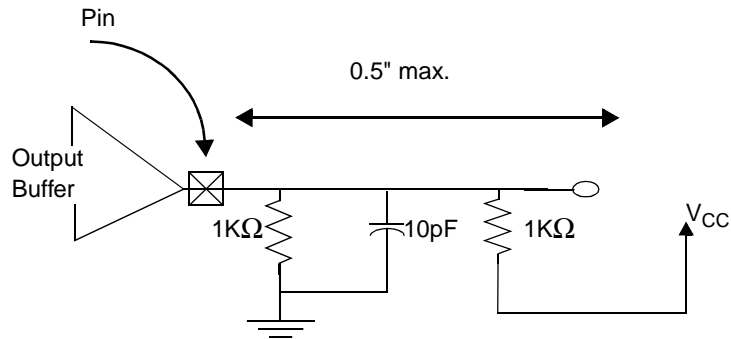
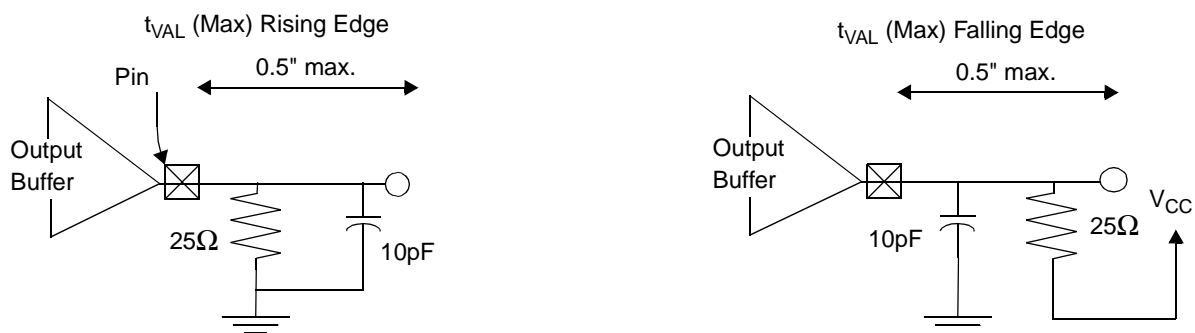

Figure 7-10 Testing Setup for Slew Rate and Minimum Timing
Figure 7-13 Load Circuits for Maximum Time Measurements
3. Rise slew rate does not apply to open-drain outputs. This parameter is interpreted as the cumulative edge rate across the specified range. According to the test circuit figure 7-10.
1. See the timing measurement conditions in Figure 7-10.
2. Minimum times are evaluated with same load used for slew rate measurement (as shown in Figure 7-10); maximum times are evaluated with the load circuits shown in Figure 7-13, for high-going and low-going edges respectively.